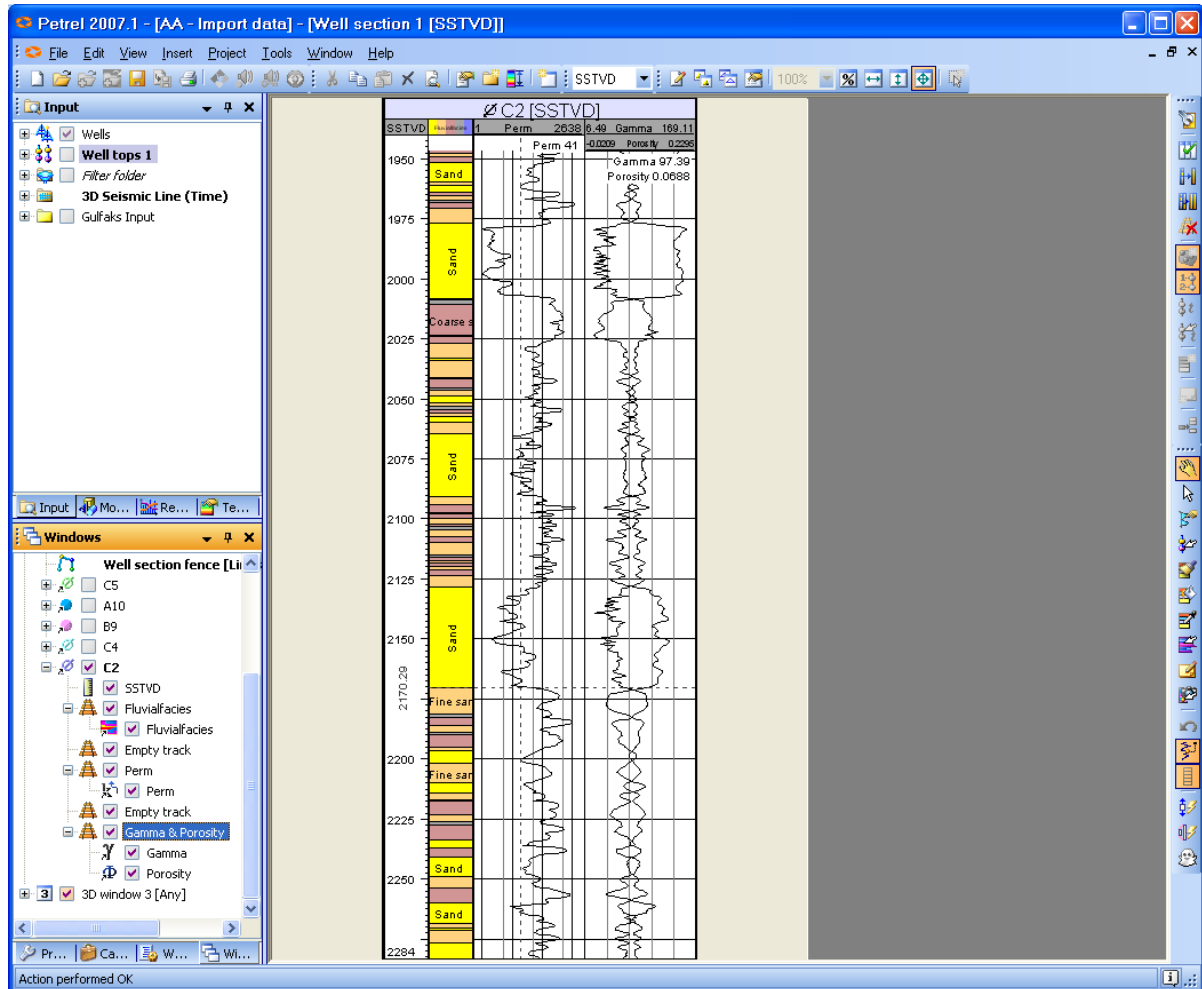

Fig.10.12: Gamma & Porosity log curves displayed in a Well Section window
7. The track panel and the selected log curves will now be visible in the Well Section window as shown in Fig. 10.12.